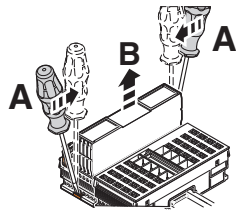
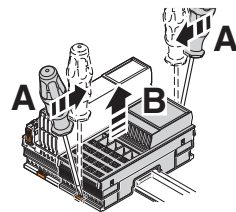

Figure 7-7
Figure 7-8
- Insert a suitable tool (e.g., bladed screwdriver) in the upper **and** lower snap-in mechanism (base latches) of the module one after the other and unlock it (Figure 7-7, Figure 7-8, A). The base latches are locked in place in the open position.
- Remove the electronics module **vertically** to the DIN rail (Figure 7-7, Figure 7-8, B). The base latches return to the idle position again.